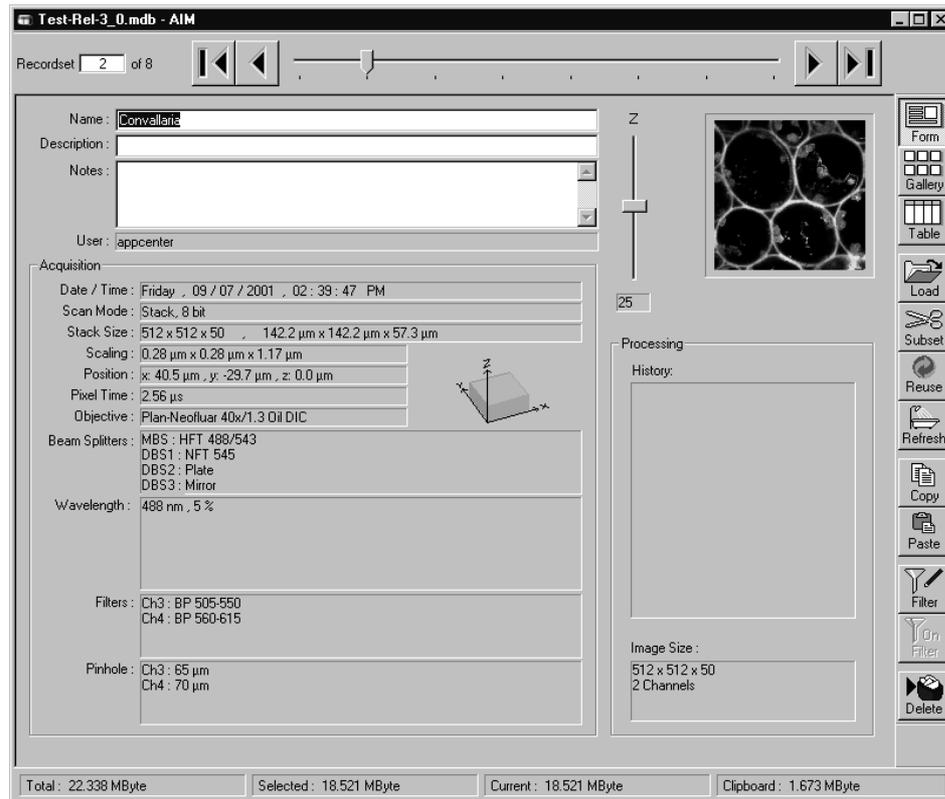

Fig. 5-16 Image Database window (Form display mode)
- Click on the **✕** button in the title bar of the **Database** window (see Fig. 5-16) to close this window.